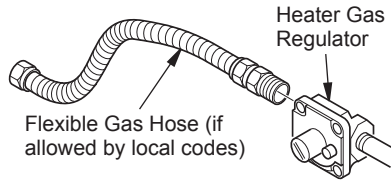

Figure 10 - Attaching Flexible Gas Hose to Heater Gas Regulator (Thermostatically-Controlled Models Only)
1. Apply pipe joint sealant lightly to male threads of gas fitting (provided). Connect approved flexible gas hose to gas regulator of heater (see Figure 10).